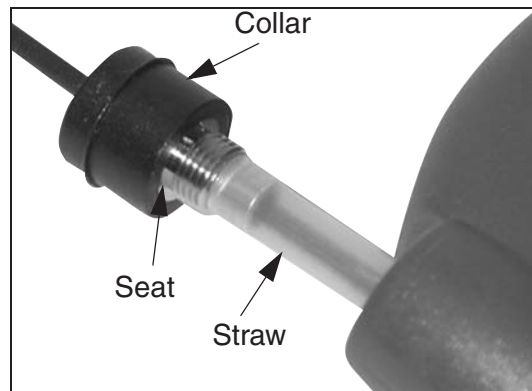

Figure 4-3.
2. Attach the Antenna Straw to the base of the antenna seat just below the seat threads. Ensure the straw is fully seated onto the base of the seat. (See Figure 4-3.)